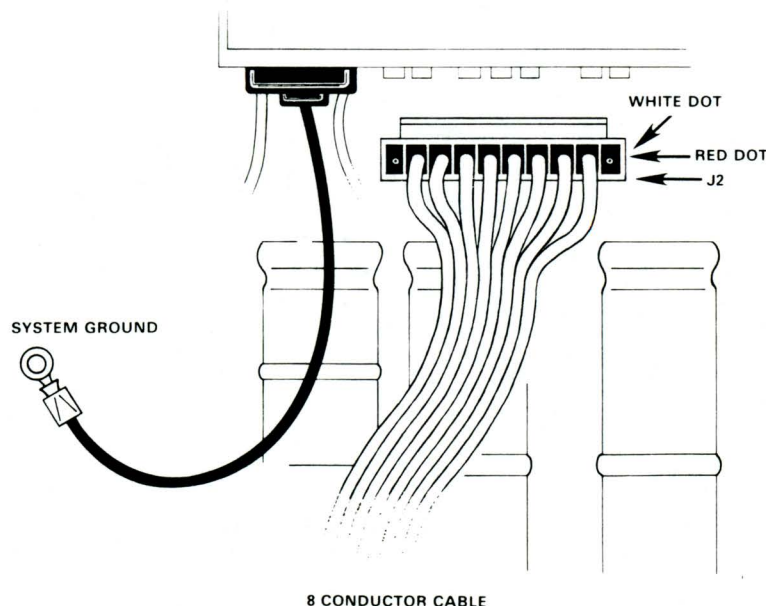

Figure 4-4. Locations for Power Supply Measurements
- c. See Figure 4-4. Locate connector J2 on the Power Supply Card (part number 702-0072-001.) Pin 1 of J2 is identified by the white dot on the card; the white dot is next to the connector. Measurements must be made while the cable connected to J2 is in place.
well as the acceptable voltage range for each supply. To make the measurements, connect the negative lead to the system ground (see Figure 4-4). Then, place the positive lead of the DVM on the cable connectors going in to J2.